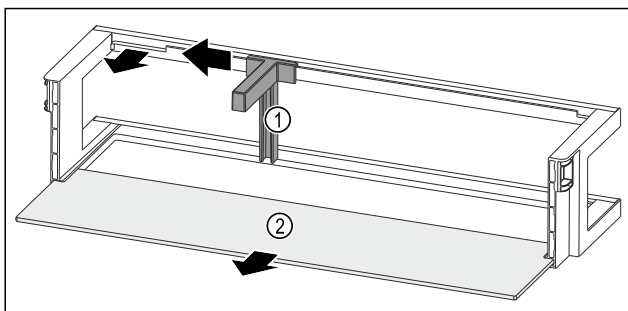

Fig. 93 Door rack with bottle holder and shelf
- ▶ Slide the bottle holder Fig. 93 (1) to the side as far as the recess.
- ▶ Remove the bottle holder Fig. 93 (1).
- ▶ Remove the shelf Fig. 93 (2).